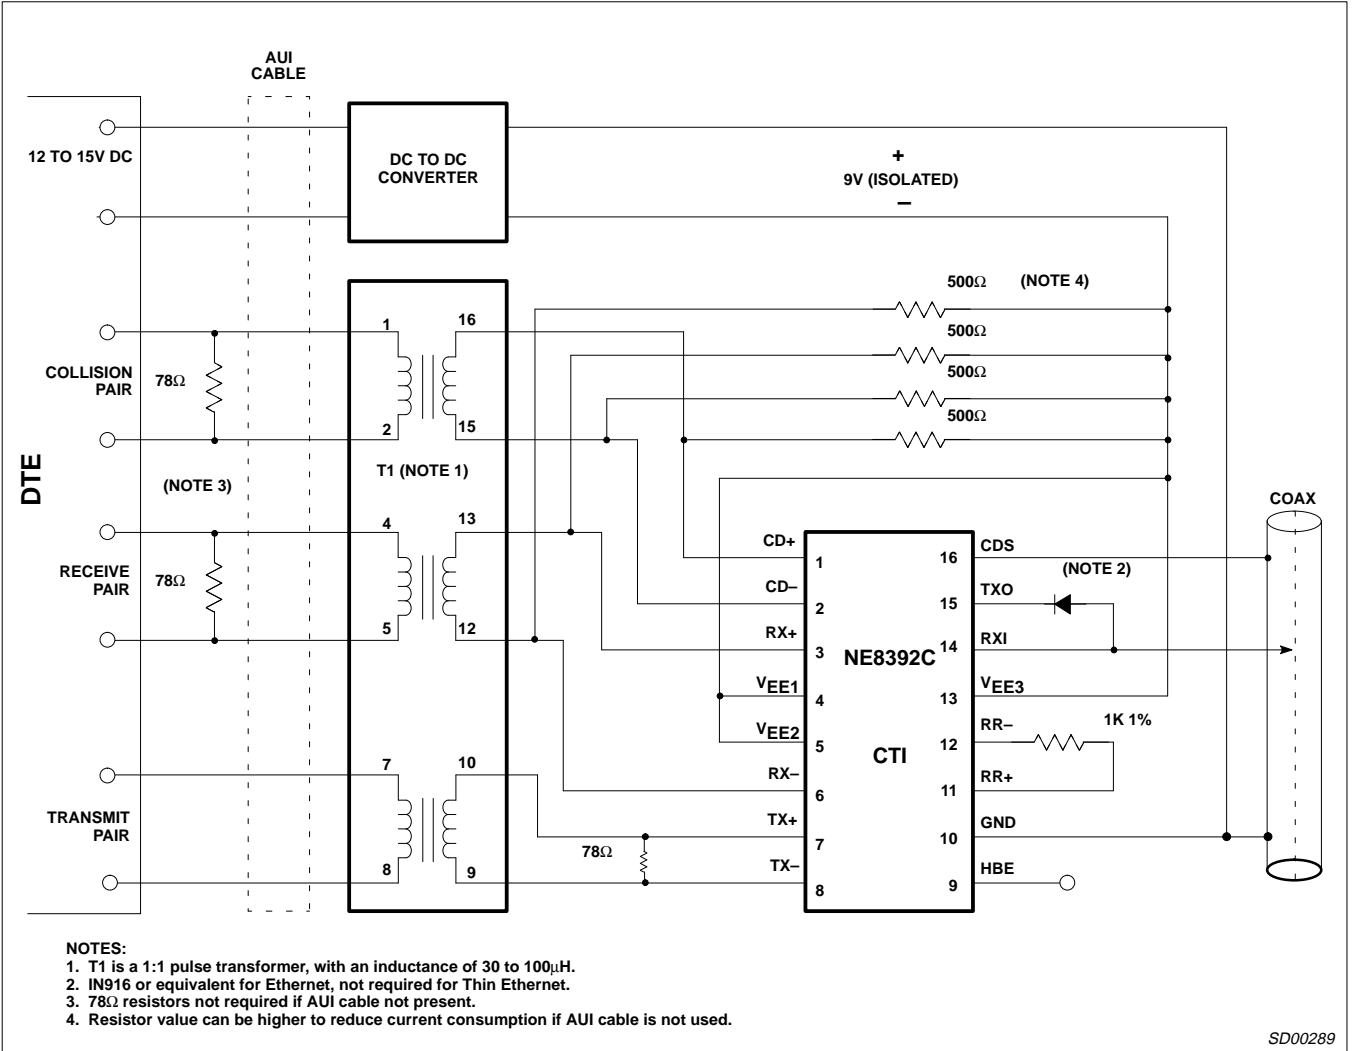

Figure 1. Connection Diagram
6. Measured on secondary side of isolation transformer (see Connection Diagram, Figure 1). The transformer has a 1:1 turns ratio with an inductance between 30 and 100 μH at 5MHz.
2. Measured on secondary side of isolation transformer (see Figure 1, Connection Diagram). The transformer has a 1:1 turn ratio with an inductance between 30 and 100 μH at 5MHz.